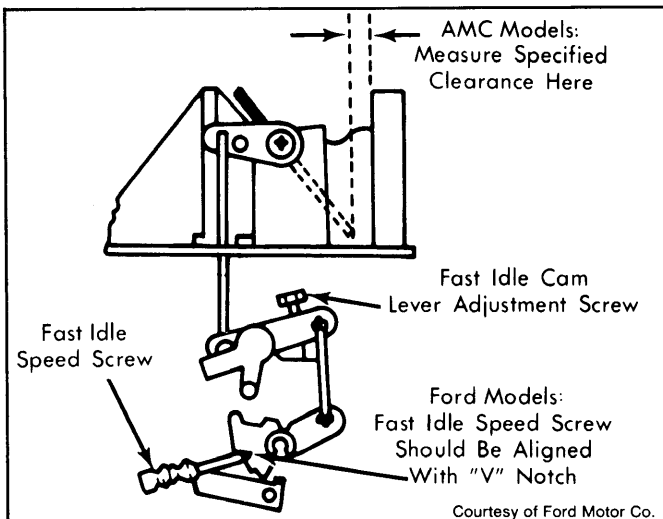

Fig. 6: Fast Idle Cam Index Adjustment
**All AMC & 1975-77 Ford Motor Co. -** 1) Push down on fast idle cam lever until fast idle speed screw is against shoulder of high cam step. Measure fast idle cam specified clearance between lower edge of choke valve and air horn wall. See Fig. 6.
3) To adjust, turn fast idle cam lever adjustment screw. See Fig. 6. Reconnect vacuum hose and perform automatic choke adjustment to reset thermostatic housing to specification.